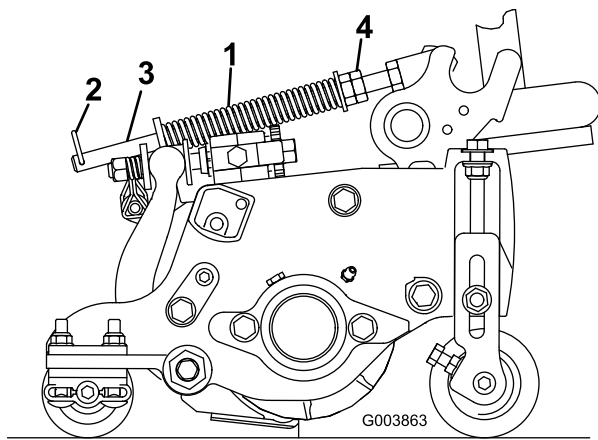

Figure 15
The turf compensation spring (Figure 15) transfers weight from the front to the rear roller. (This helps to reduce a wave pattern in the turf, also known as marcelling or bobbing.)
1. Make sure the hairpin cotter is installed in the rear hole in the spring rod (Figure 15).
2. Tighten the hex nuts on the front end of the spring rod until the compressed length of the spring is 12.7 cm (5 inches) on Reelmaster 5410, 5-inch cutting units or 15.9 cm (6.25 inches) on Reelmaster 5510 and 5610, 7-inch cutting units (Figure 15).